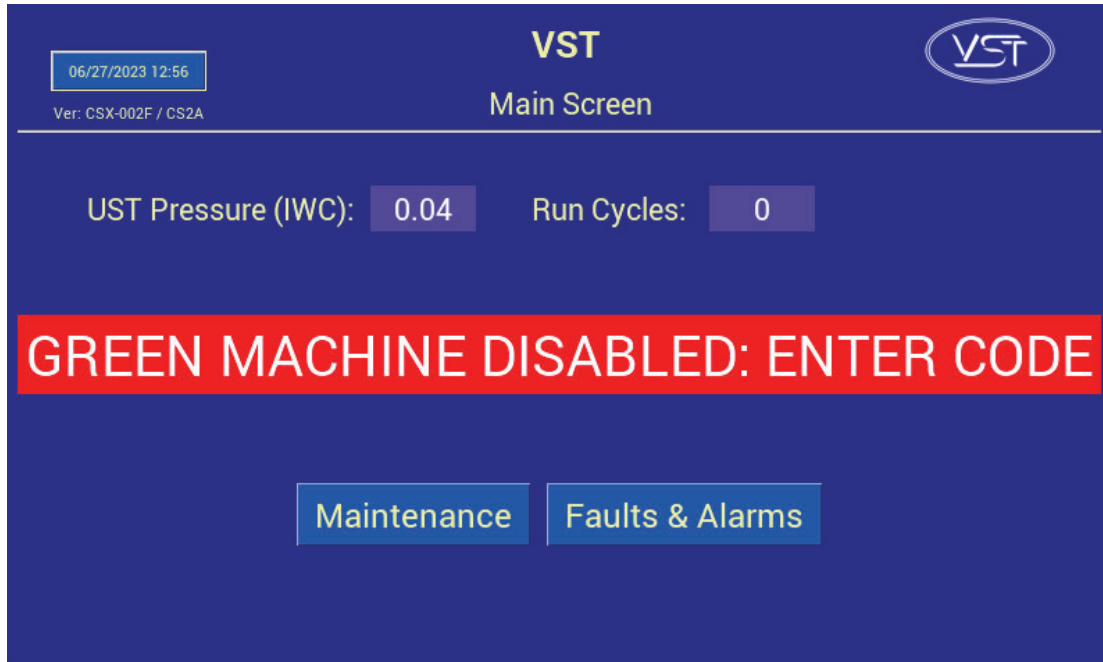

Figure 3-1: Main Screen with GREEN MACHINE DISABLED: ENTER CODE
- After the Control Panel is installed and power applied to the panel, **Figure 3-1** shows the Main Screen with the GM DISABLED – ENTER CODE label, which will be discussed later in this Chapter.
After power is turned ON to the VST Control Panel (See Figure 3-1), the Main Screen will show **GM DISABLED – ENTER CODE**. This means:
4. **See Figure 3-1:** VST Control Panel PLC Main Screen – GM Disabled – Enter CODE Main Screen